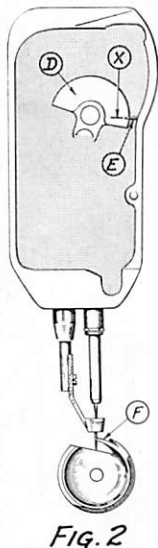
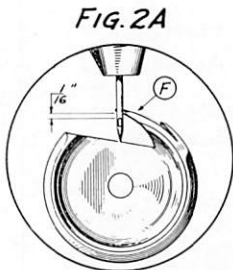
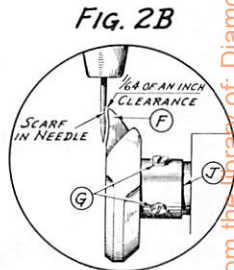
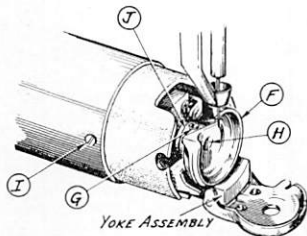

FIG. 2
FIG. 2A
FIG. 2B
FIG. 3
Making sure the Needle is up into Needle Bar as far as possible, turn machine until timing mark (X) Fig 2 on Crank Head (D) is directly in line with Pin (E) as shown in Fig. 2.
At this time the point of Hook (F) Fig 2 should be at the Vertical Center Line of the Needle and $\frac{1}{16}$ of an inch above the Needle Eye as shown in enlarged view Fig. 2A and at the center of the scarf in the Needle as shown below in Fig. 2B.
Loosen 3 Screws (G) Fig 3 and turn Hook (F) to Left or Right on Shaft (H) the desired amount. Now check for $\frac{1}{64}$ of an inch clearance between scarf in Needle and point of Hook (F) as shown in Fig. 2B.
To adjust lateral position of Hook and Yoke, loosen Set Screw (I) Fig. 3 and move entire Yoke Assembly in or out on Shaft (H) making certain that hub of Hook shoulders firmly against the Yoke at point (J) Figs. 2B and 3. Tighten 3 Screws (G) and Set Screw (I) Fig. 3 securely making certain that you do not bind Hook and Shaft by too much pressure at (J).